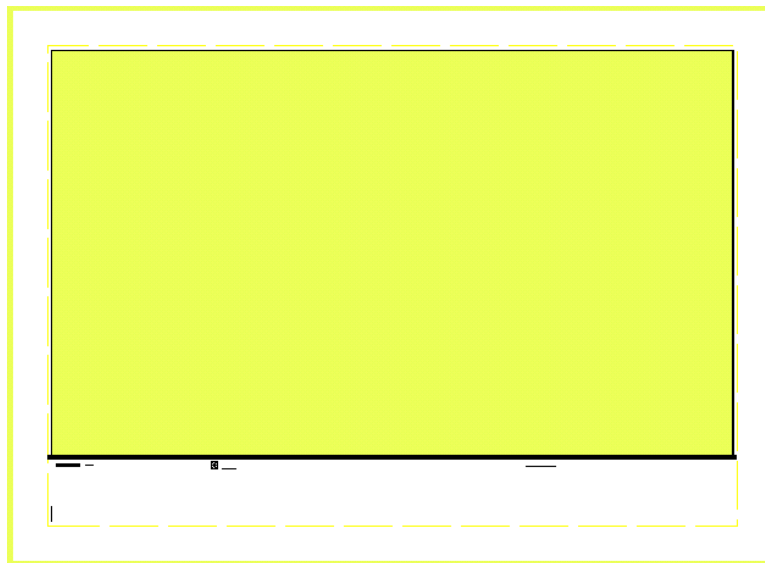

Figure 4-50
45. Go to *Plot Template* and click on *Move Fills to Back*. The legend symbols, text and #CONA# should now be visible. See Figure 4-50.